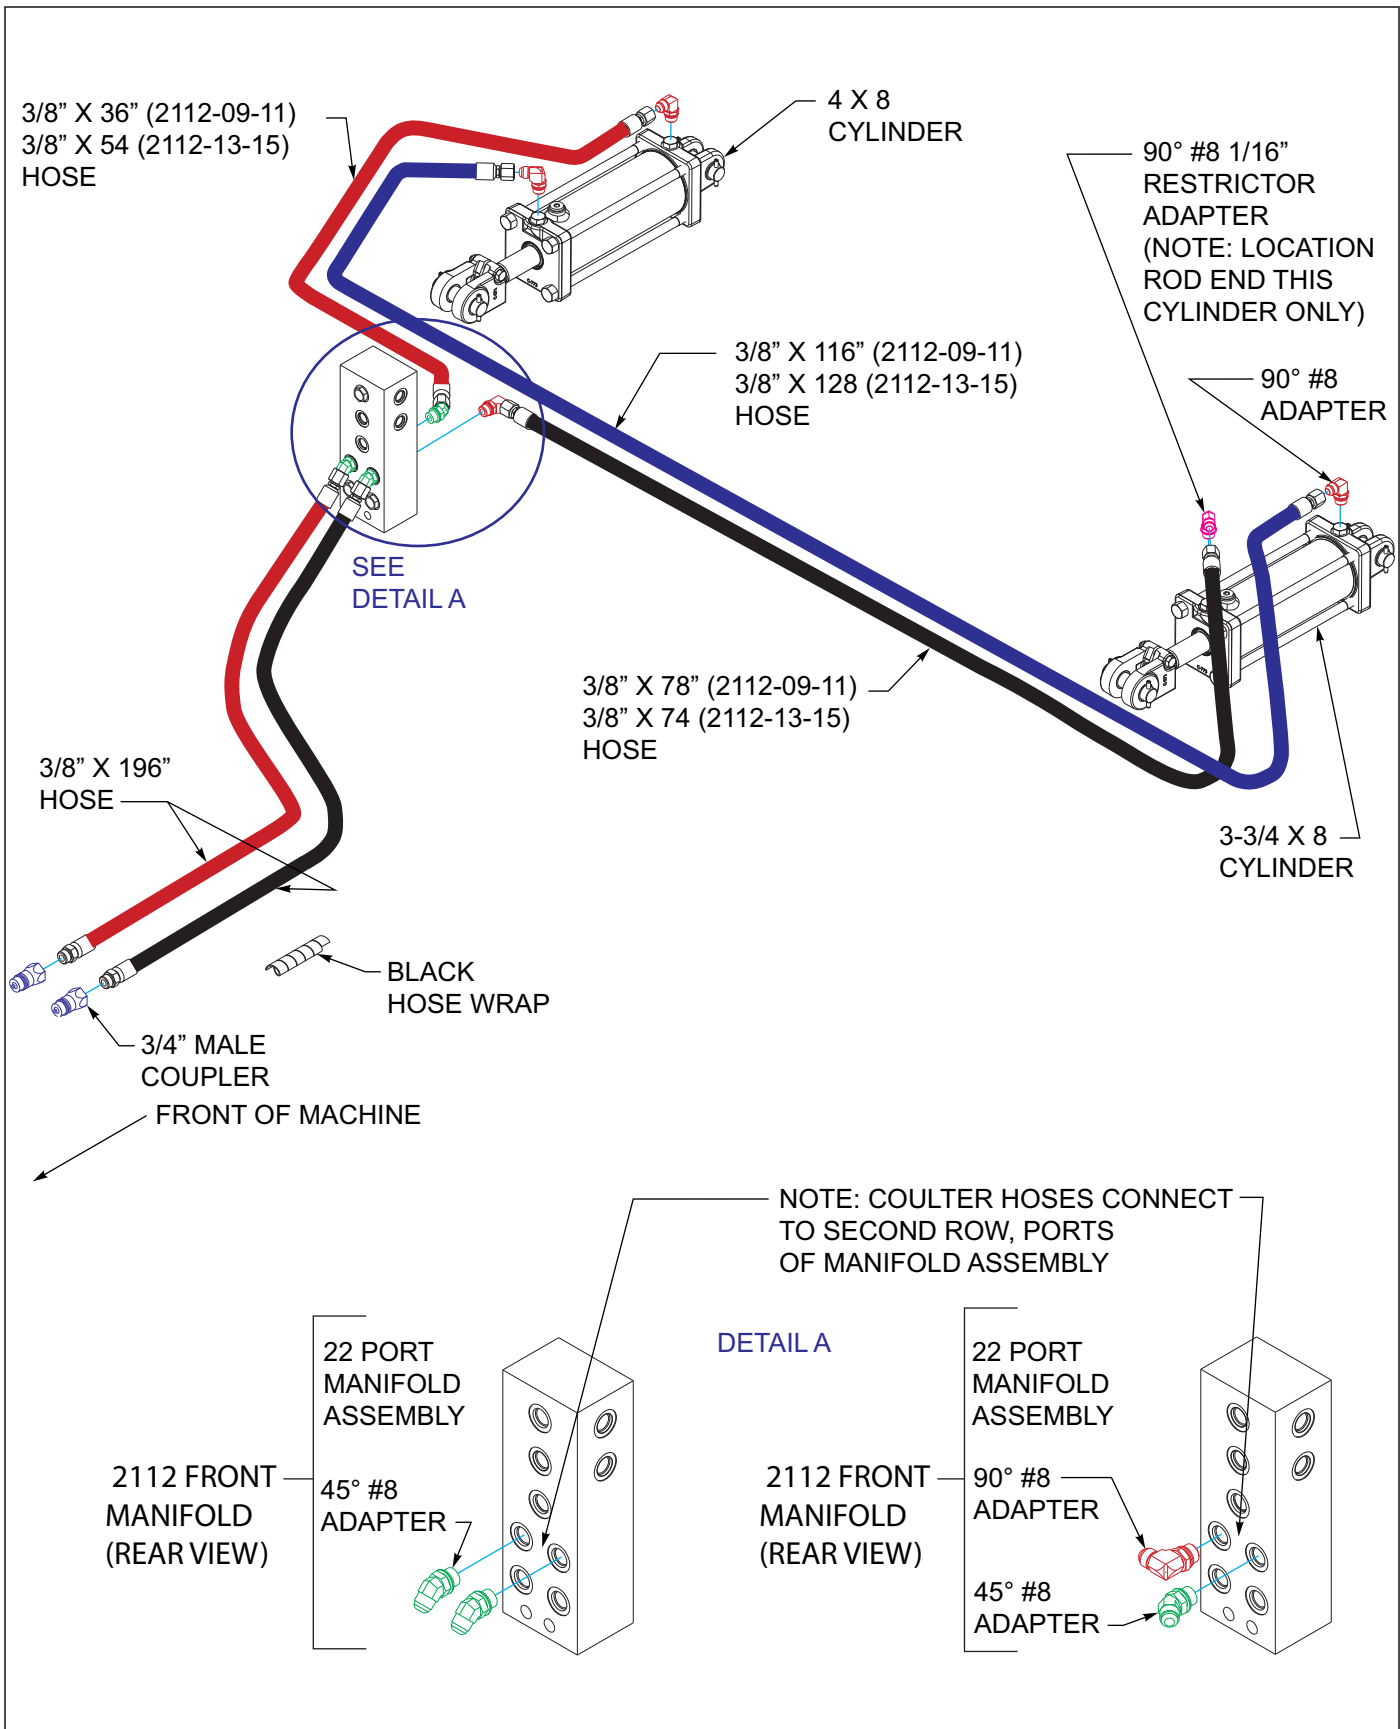
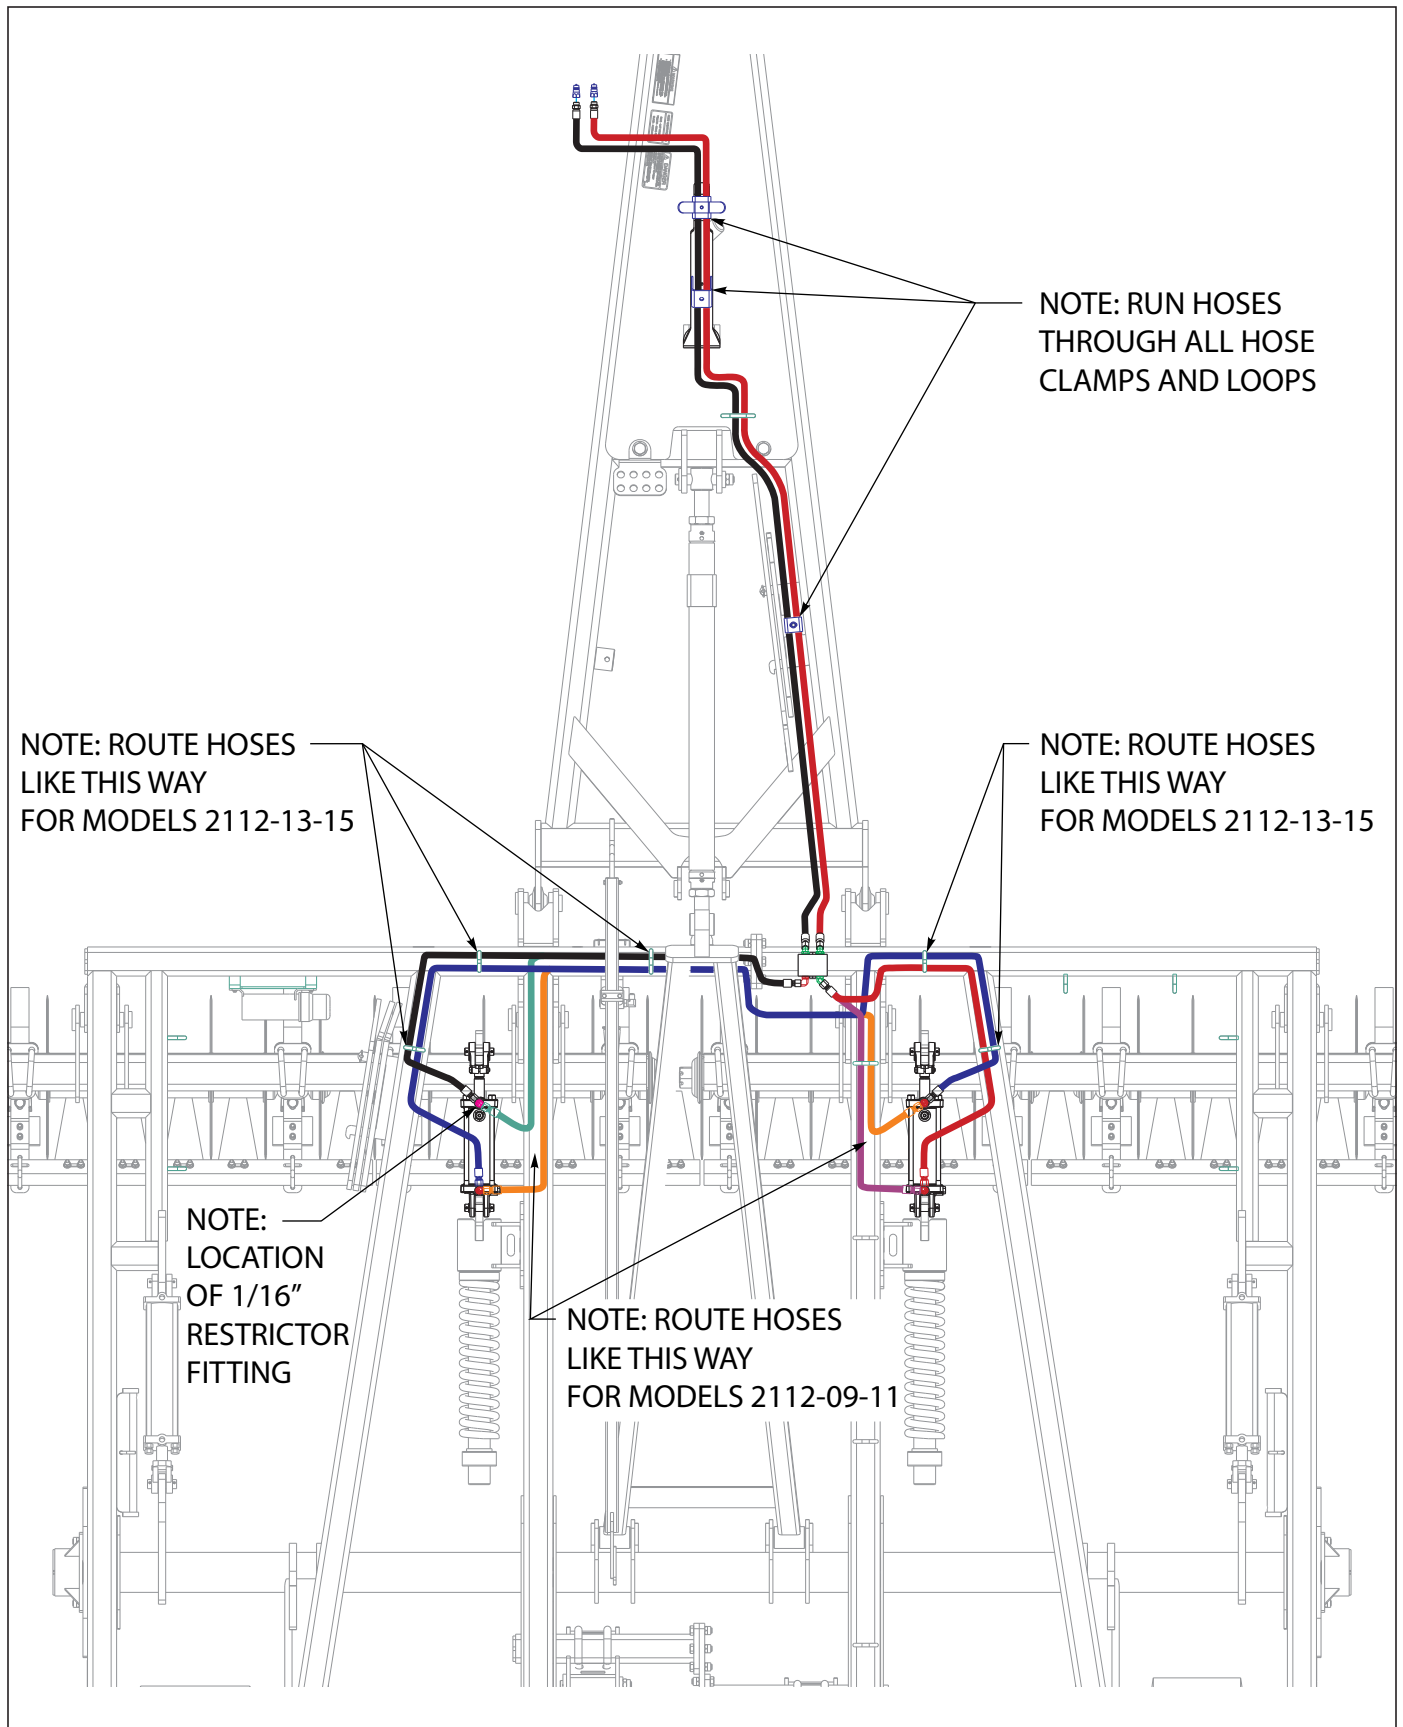

Figure 3-15: Coulter Gang Hydraulic Installation
Figure 3-16: Coulter Gang Hydraulic Layout
2. *See Figures 3-15* through *See Figures 3-16* for coulter hydraulic installation.